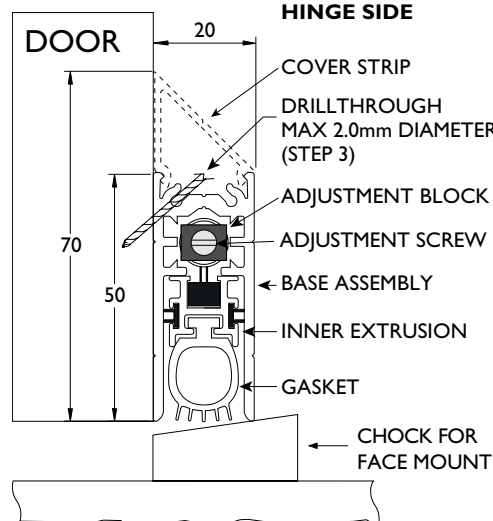

FIG. 3
STEP 3 Fit the hinge side escutcheon plate with the shortest screws supplied. **(FIG.3) Note:** Do not use a powered driver.